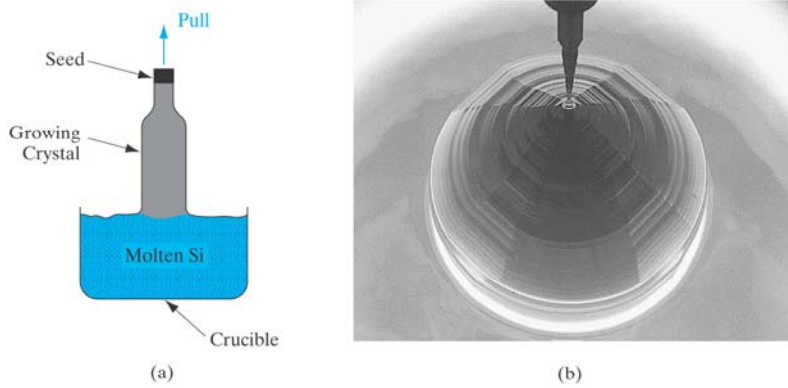

Figure 1.10
Figure 1.10 | Three lattice directions and planes: (a) (100) plane and [100] direction, (b) (110) plane and [110] direction, (c) (111) plane and [111] direction.